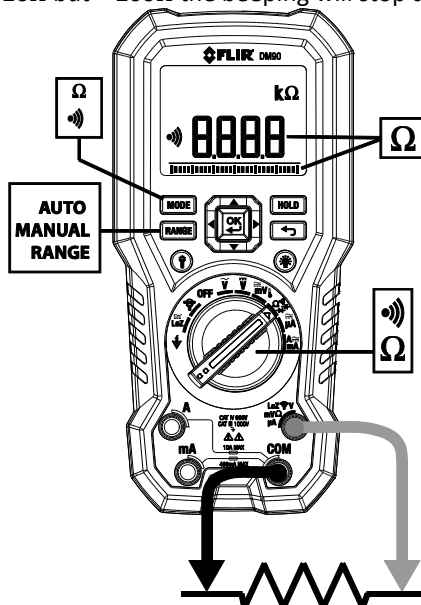

Fig. 5-2 Resistance and Continuity Measurements
1. Refer to Fig. 5-2. Set the function switch to the Ω position.